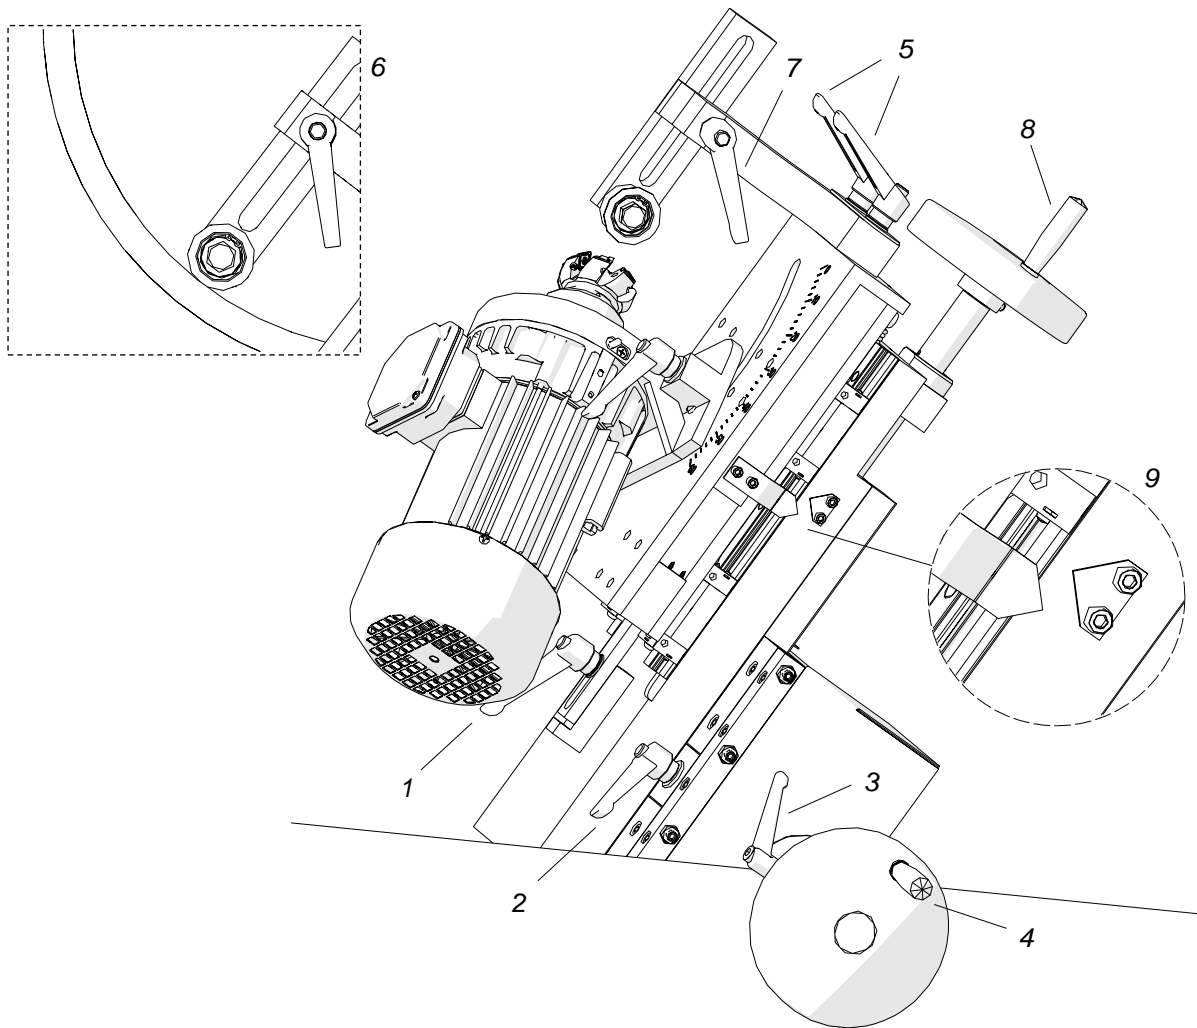

Fig. 14. Adjusting the support with oval attachment
Unlock the levers 1, 2, and 3 (Fig. 14), and then rotate the crank 4 to bring the milling unit closer to the pipe. Adjust the roller arm position and lock the levers 5. Next, rest the roller on the smallest inside diameter of the pipe (6) and lock the lever 7. Finally, rotate the crank 8 in such a way to align the arrows (9) and lock the lever 2.